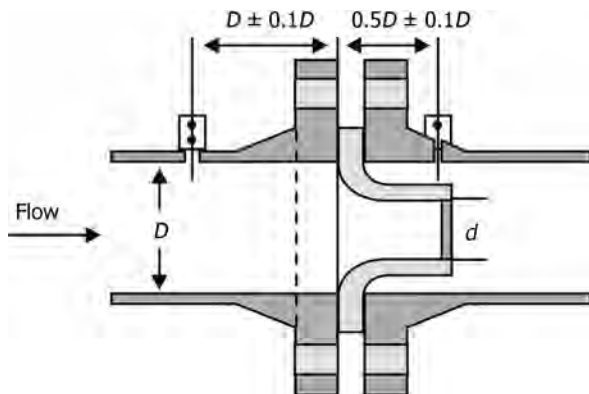

FIGURE 4.12 Flow nozzle.
- A flow nozzle is essentially a short cylinder with the approach being elliptical in shape to a narrow throat (Figure 4.12). It is typically installed in-line, but can also be used at the inlet to and the outlet of a pipe or outlet from a tank.